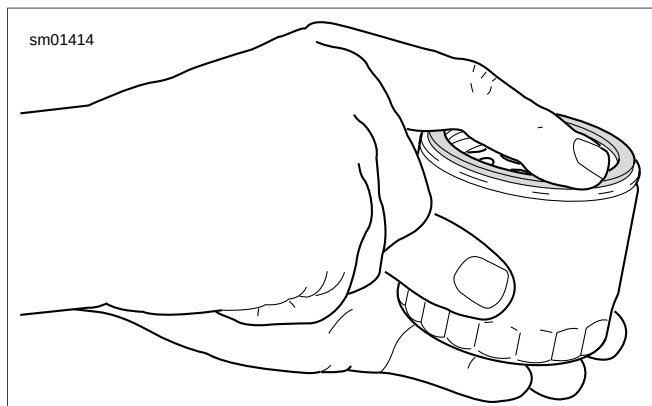

Figure 1-6. Lubricating New Oil Filter Gasket
- See Figure 1-6. Lube the gasket on **new** oil filter with engine oil and install **new** filter. Hand tighten oil filter 2/3 to 1 turn after gasket contacts filter mounting surface.